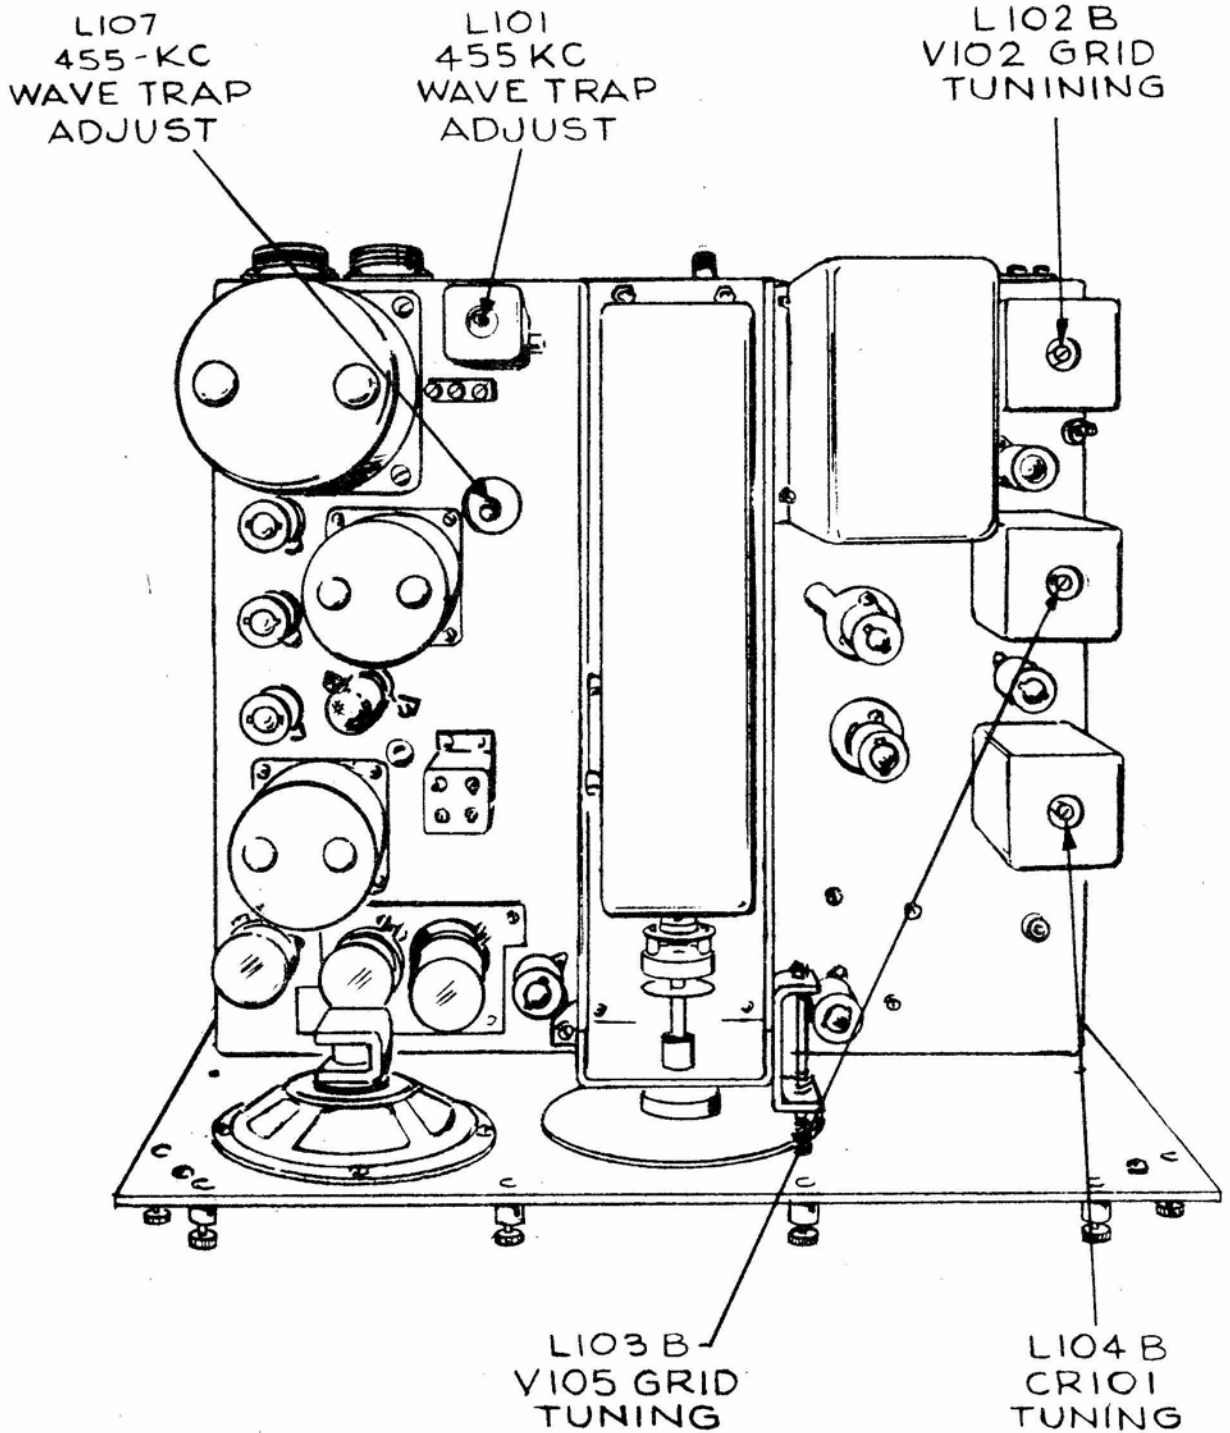

Figure 6-1. Alignment Adjustment Locations, Receiver Chassis Top View
I.F. and R.F. alignment comprise the only tuning and adjustment procedures for the receiver. All electrical adjustments have been carefully made at the factory before shipment, and are of a sufficiently permanent nature so that realignment should not be necessary for a considerable period of time under normal operating conditions. However, realignment may become necessary after replacement of a tube associated with a tuned circuit, or replacement of the tuned circuit itself. Before attempting alignment, the need should first be definitely established by conducting the performance tests described in Table 5-2. All alignment adjustments are shown in figures 6-1 and 6-2. Typical audio response and A.G.C. characteristic curves are shown in figures 6-3 and 6-4, respectively.